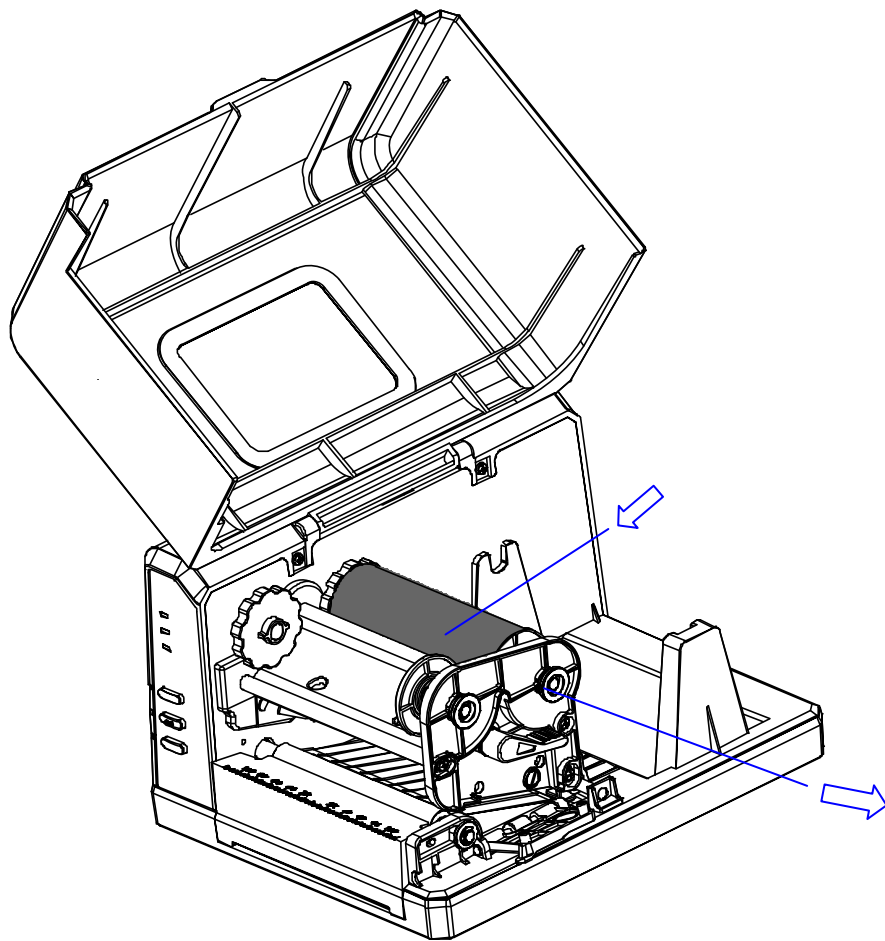

Figure 5-2
2. Remove the ribbon from its package, and place the roll into the Ribbon Supply area, pulling out the Ribbon Release Knob to insert the roll, and allow the leading edge of the ribbon to fall underneath the Printhead module. Ensure the ink side of the ribbon is facing down (see Figure 5-2).